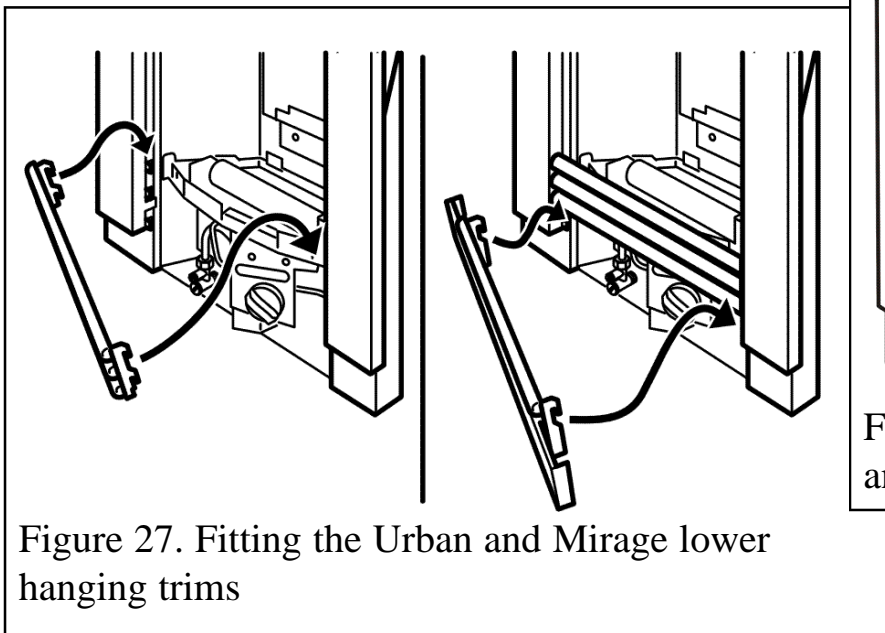

Figure 27. Fitting the Urban and Mirage lower hanging trims
2. Fit the lower hanging trims to the fascia (Figure 27)